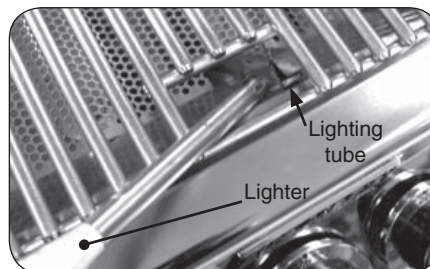

Fig. 19-2 - Manual lighting
2. Insert either a burning long-barrel butane lighter or a burning long-stem match through the cooking grid opening to the top of the lighting tube. (Fig. 19-2). For backburners, hold the flame against the perforated material of the backburner. For sideburners, hold the flame against the burner.
4. If the burner does not light, **immediately depress the knob and turn the valve to OFF**. **WAIT FIVE (5) MINUTES** before repeating steps 2 through 4 of the **MANUAL LIGHTING** instructions.